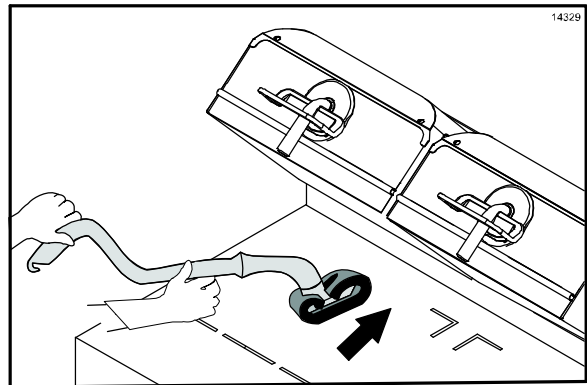

Figure 95
36. Use the cleaning pad holder to lightly scrub the lower grill surfaces until all soil has been liquified by the grill cleaner. For stubborn soils, apply additional grill cleaner and lightly scrub. (See Figure 95.)